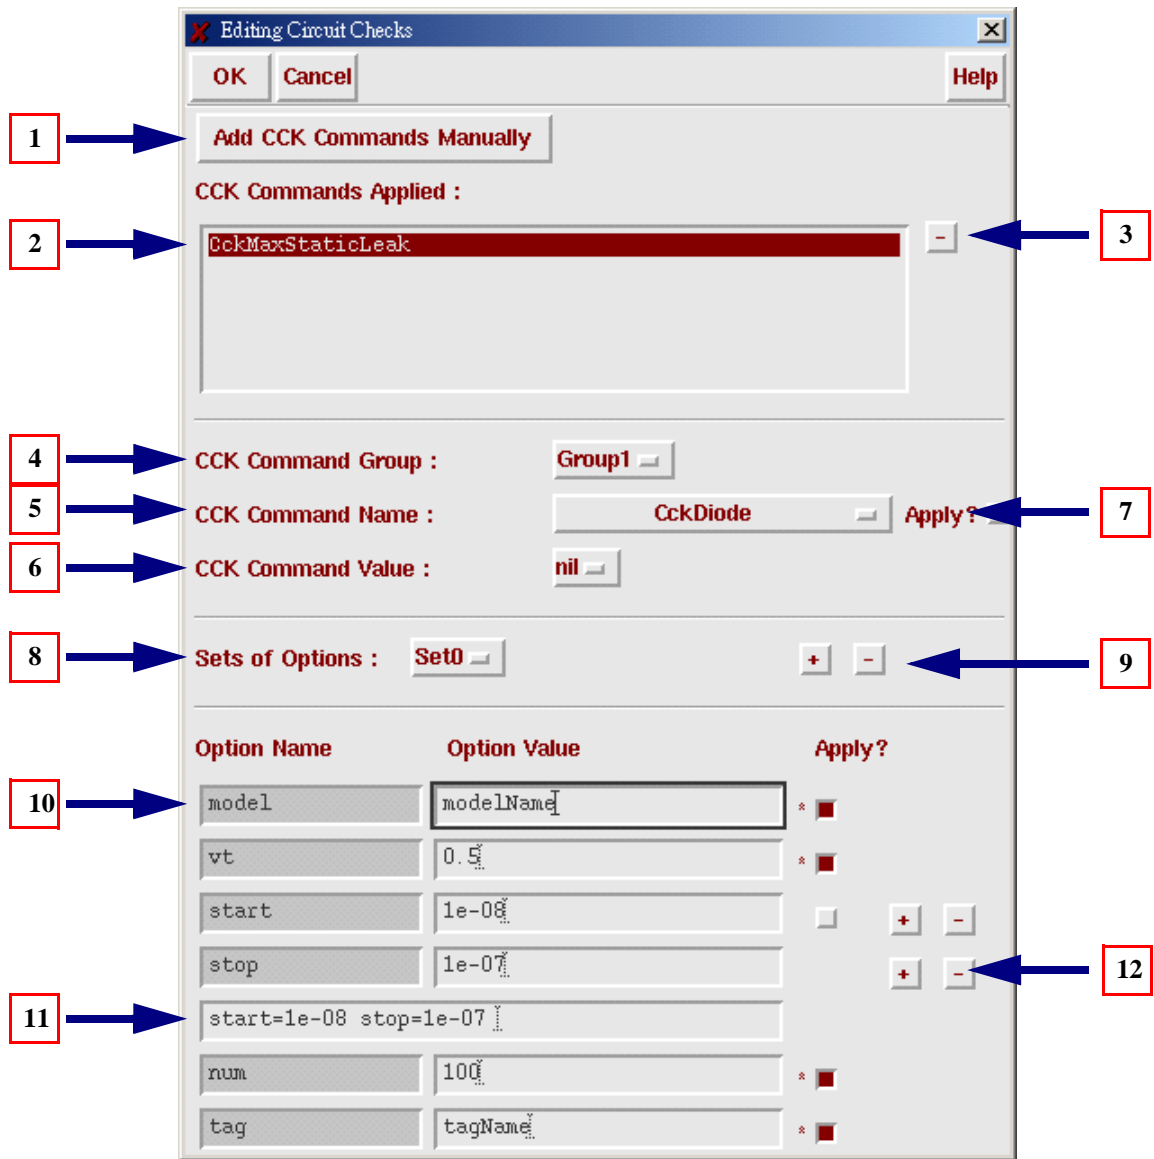

Figure 64 Editing CircuitChecks
3. Choose HSIM->CircuitCheck to open the Editing CircuitChecks window shown in Figure 64.
The following are descriptions of the Editing CircuitChecks window features shown in Figure 64.
The name of the selected command is listed in the CCK Command Applied: list box of the Editing CircuitChecks window shown in Figure 64 on page 407. Only the commands listed in the list box will be output into a CCK command file. These will then be included in the HSIM simulation netlist.